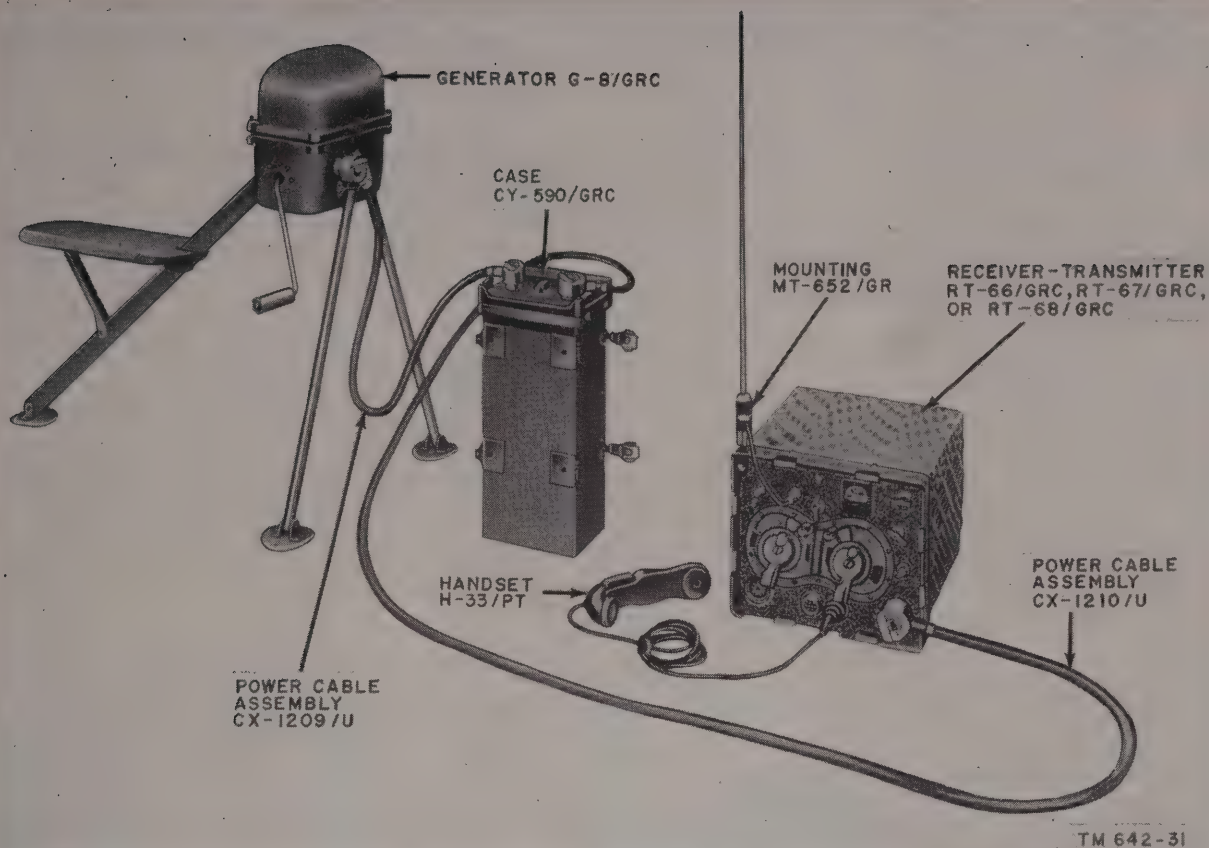

Figure 70. Field operation of receiver-transmitter with Generator G-8/GRC and Case CY-590/GRC.
- (3) The crank of the generator is rotated by a single operator seated on the seat leg (fig. 65). The generator should not be operated unless properly connected to the receiver-transmitter, either directly to the receiver-transmitter panel or through the battery box (Case CY-590/GRC) (fig. 70 or 71). See TM 11-5037 for detailed information on the generator.
(fig. 70)
b. Set up the generator, battery case, and Set 1 as illustrated in figure 70. Refer to the manual supplied with the generator for detailed information (TM 11-5037). Turn the OFF-ON-REMOTE CONTROL switch of the battery case to the OFF position.